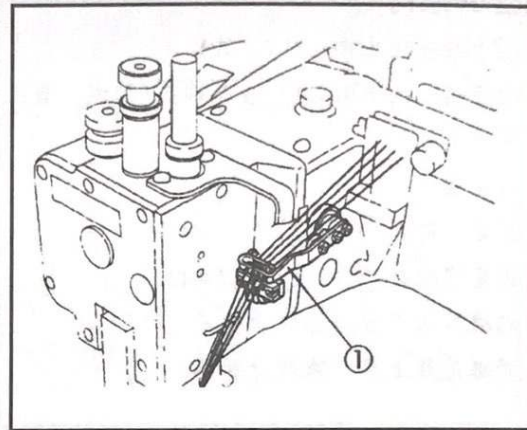

Fig.36
- (1) 抬線架①轉到最低位置。(Fig.36)
- (1) Position the needle thread take-up ① at the lowest point. (Fig.36)